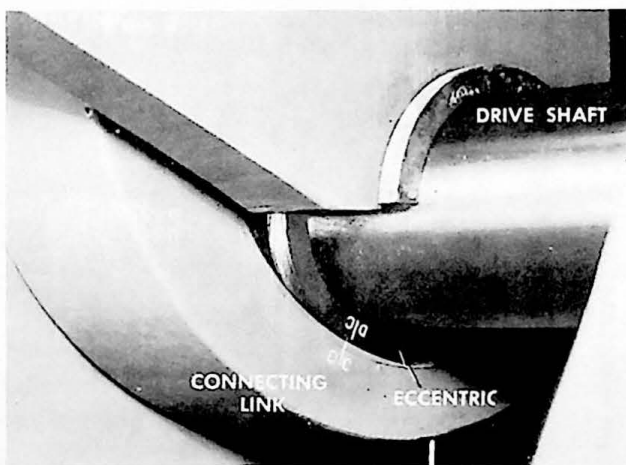
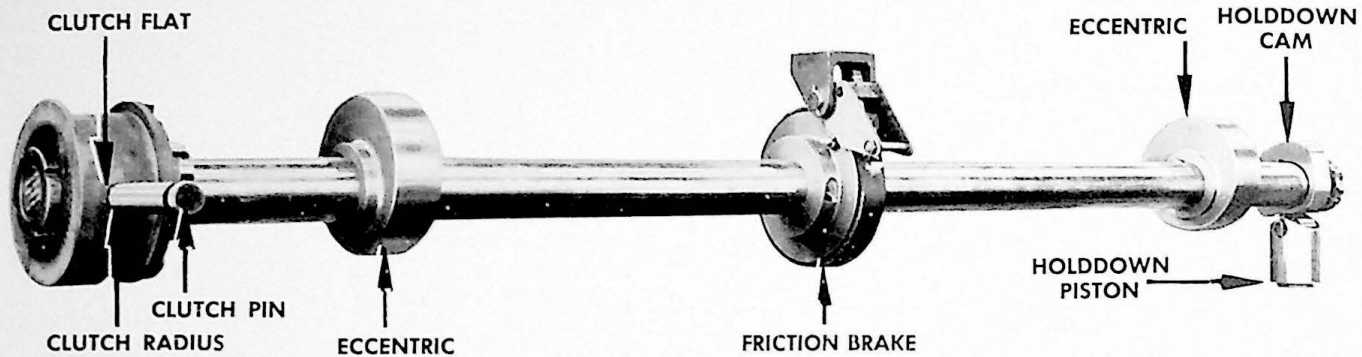

Fig. 29. When "DC" Marks are in Line
Fig. 33. Clutch and Brake Timing
- I. Drive shaft may be twisted due to overload. Check "DC" (dead center) marks at bottom of eccentrics and connecting links at each side. (See Figure 29.)
The clutch, friction brake, and holddown cam all turn together in fixed relation on the drive shaft. The ideal relation of these parts is as shown in Fig. 33. With the ram on top dead center as shown by the "DC" marks at the bottom of the links and eccentrics, Fig. 29, or as determined by the use of a dial indicator, the position of these parts should be as follows: